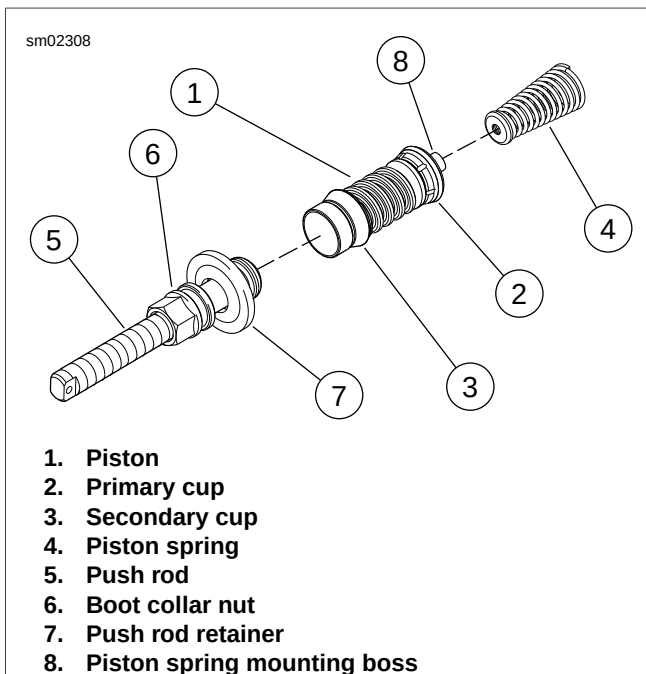

Figure 2-107. Rear Master Cylinder Piston, Push Rod and Spring Assembly
4. See Figure 2-107. Lubricate master cylinder bore, **new** piston (1) with **new** secondary cup (3), and **new** primary cup (2) with CCI #20 BRAKE GREASE supplied in the service parts kit.